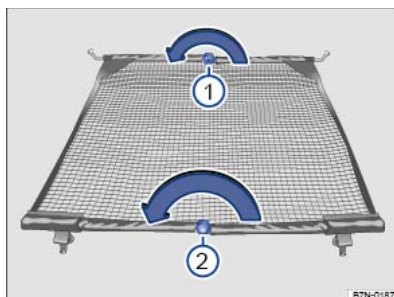

Fig. 185 Folding in the net partition.
- Press the release button $\Rightarrow$ *Fig. 185* ①. With the release button pressed down, fold in the rod in the direction of the arrow.
- Press the release button $\Rightarrow$ *Fig. 185* ②. With the release button pressed down, fold in the rod in the direction of the arrow.